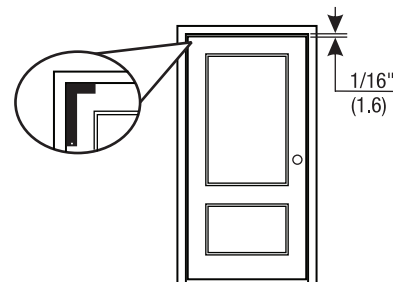

Figure 2
2. Verify frame is square by using a carpenter's square. (Figure 2)